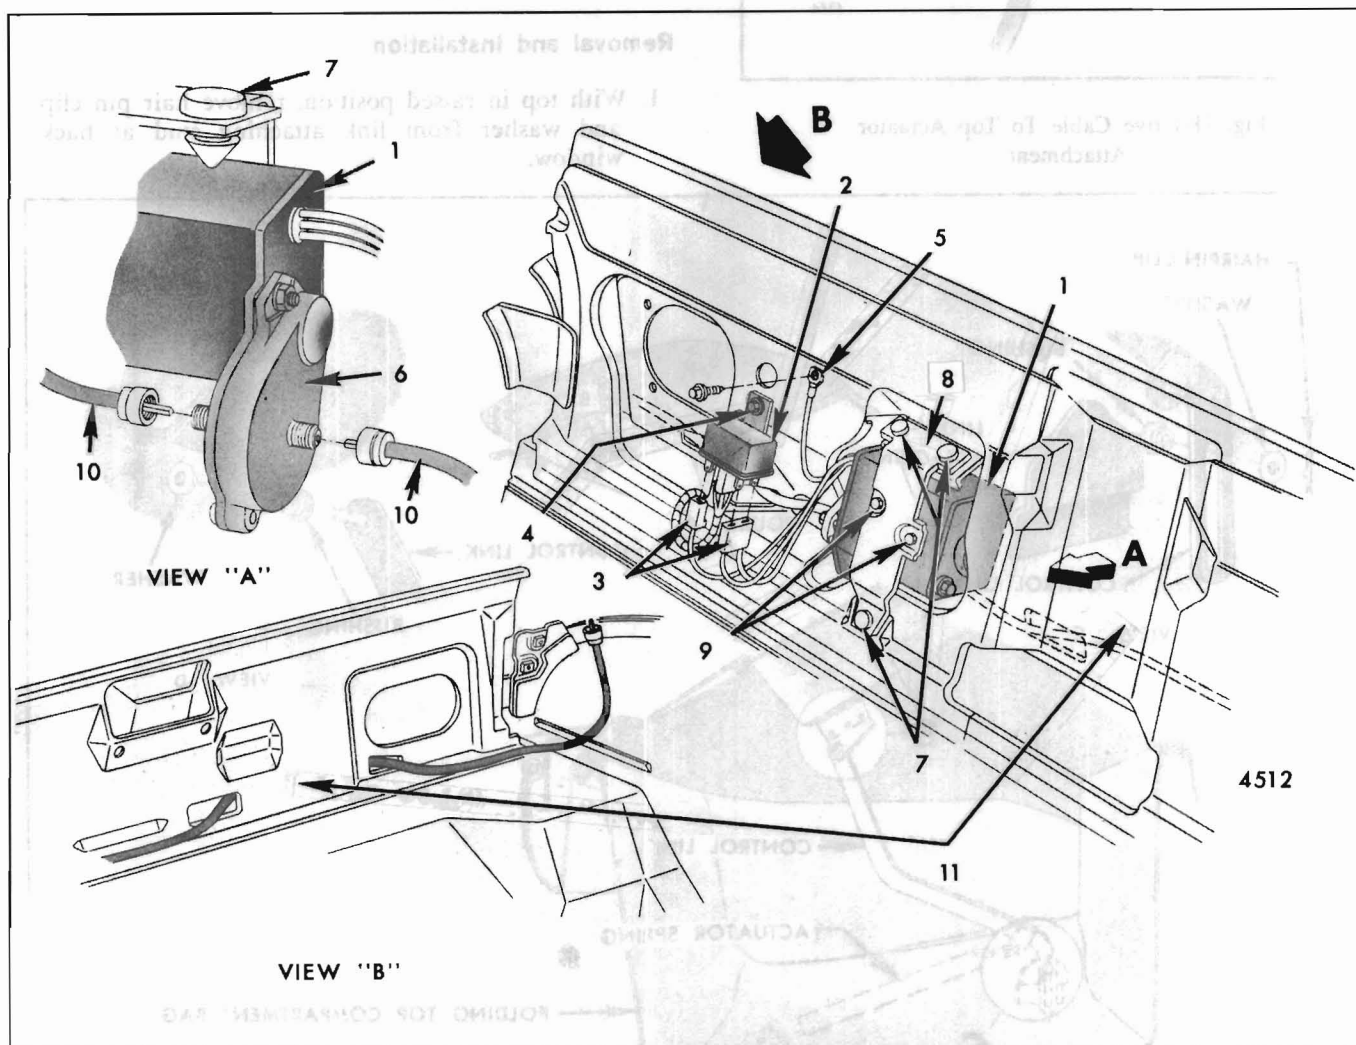

Fig. 17-Folding Top Electric Motor and Relay
The folding top electric motor and relay are secured to the rear seat back panel and are accessible in the rear seat area (Fig. 17).
3. Detach electric motor connectors from relay (Fig. 17).
6. Detach rubber grommets securing motor support to rear seat back panel (Fig. 17).
7. Detach right and left drive cables from electric motor reduction unit (Fig. 17).
3. Detach right and/or left drive cable at electric motor reduction unit (Fig. 17). For removal of left drive cable, first detach motor.